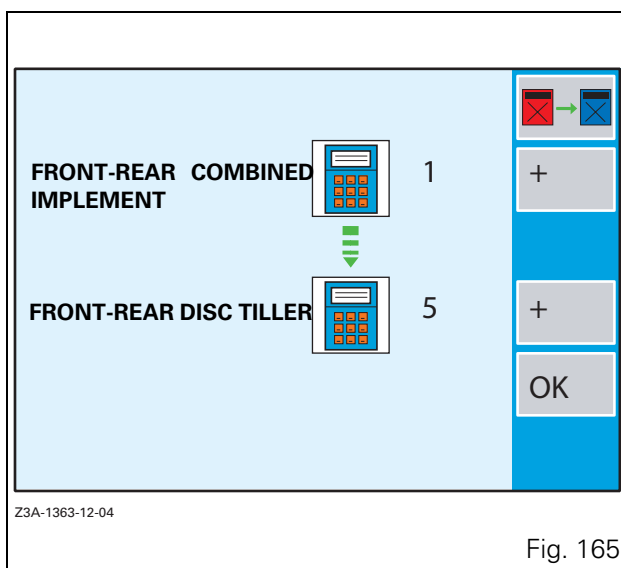

Fig. 165
- To download a calibration in another memory, press the key «₁ when the window (Fig. 163) is open. The window (Fig. 165) is displayed.